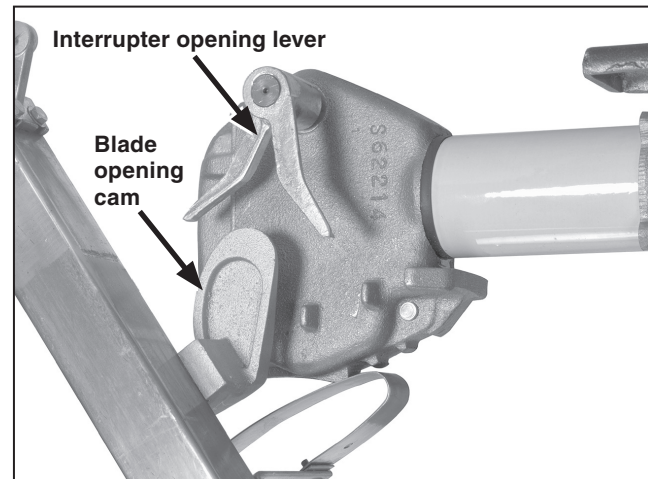

Figure 35. Verifying the blade opening cams do not hit the interrupter opening levers on closing.
- (e) Also, as the blade assembly moves in the *opening* direction, the two blade-opening cams must simultaneously make positive engagement with their respective interrupter opening levers, as shown in Figure 35. Simultaneity is essential to ensure both interrupters share the interrupting duty. The opening lever on one or both interrupters may be bent slightly to attain opening simultaneity.
- (f) After opening the blade fully, *slowly* close the blade and verify the two opening cams do not hit the interrupter opening levers. See Figure 35.